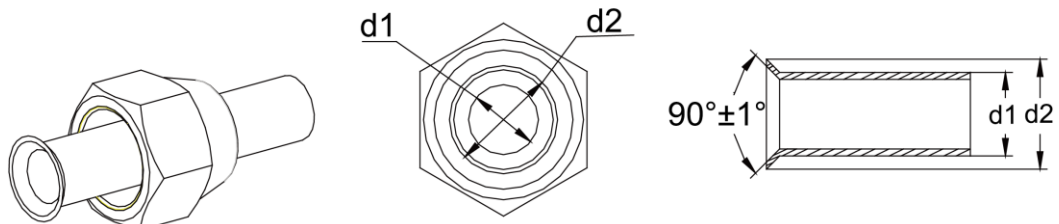

Fig. 12
- (1) Use pipe cutter to cut the connection pipe in case it is unshaped.
- (2) Keep the pipe downward in case cutting scraps get into the pipe. Clear away the burrs after cutting.
- (3) Remove the flared nut connecting indoor connection pipe and outdoor unit. Then use flaring tool to fix the flared nut into the pipe (as shown in Fig.12).
- (4) Check if the flared part is flaring evenly and if there is any crack.